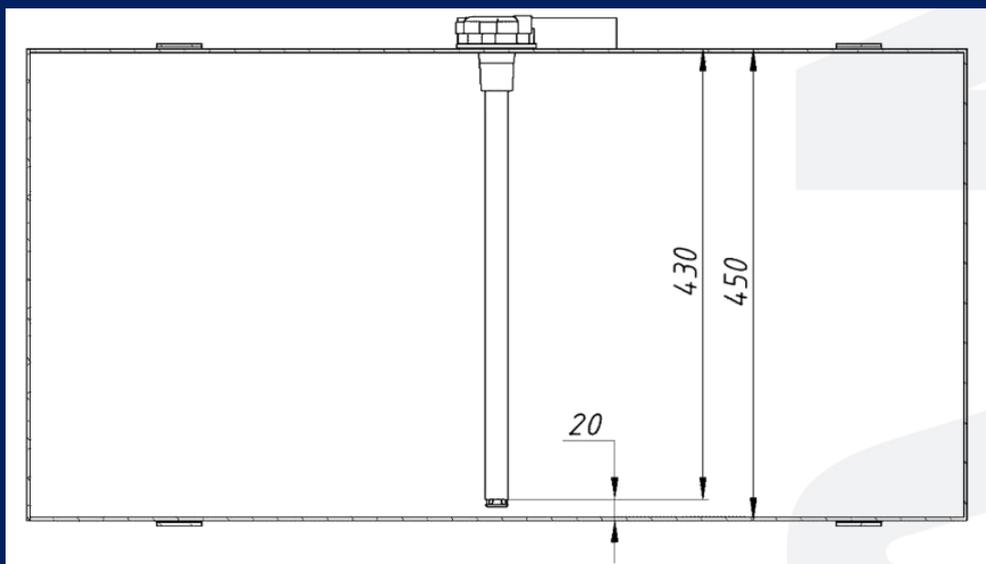

Figure 5 - Trimmed BLE FLS mounted on a fuel tank
3. Cut the sensor to the required height. To avoid water and dirt getting into the measuring part of the sensor it is necessary to cut the BLE FLS 20 mm shorter than the tank height in the place of installation, according to Figure 5.